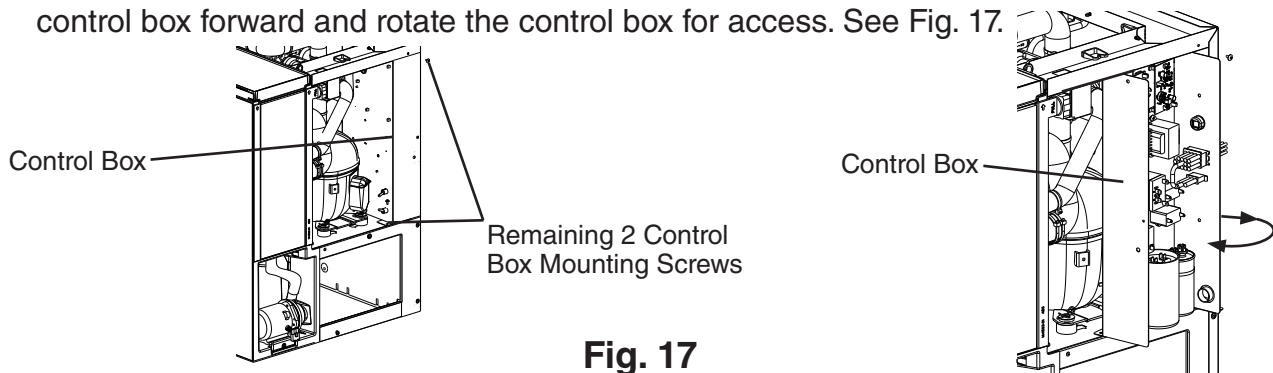

Fig. 17
- 1) Make sure that the power supply is off. If not already removed, remove the front, top, and right side panels. Then remove the base cover. Note: To access the control box from the front, remove the 2 remaining control box mounting screws, then slide the control box forward and rotate the control box for access. See Fig. 17.